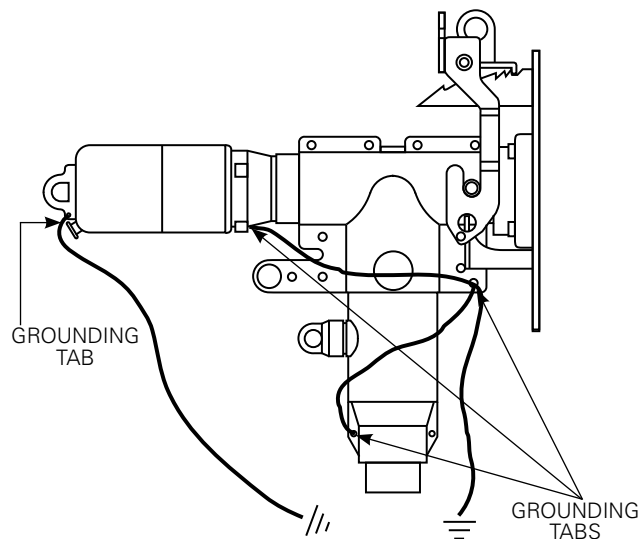

Figure 20. Line illustration of grounding.
- Connect one strand of cable concentric neutral to shroud grounding tab. Connect remainder of concentric neutral wires to system ground. (Refer to Figure 20.)